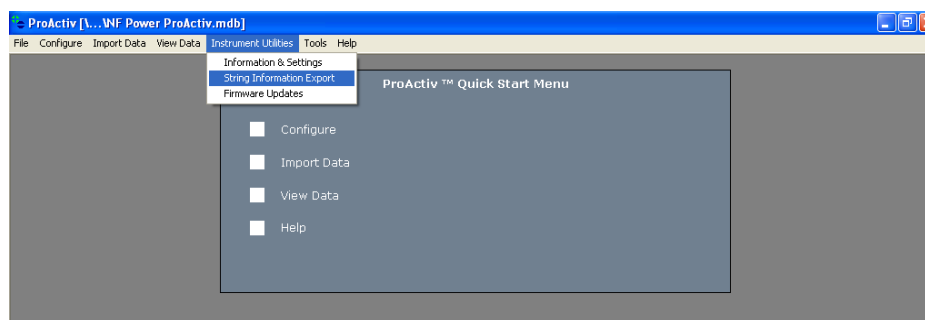

Figure 2 - ProActiv
- 1-3. Start the ProActiv software. Choose **INSTRUMENT UTILITIES – STRING INFORMATION EXPORT** from the top menu, refer to Figure 2.